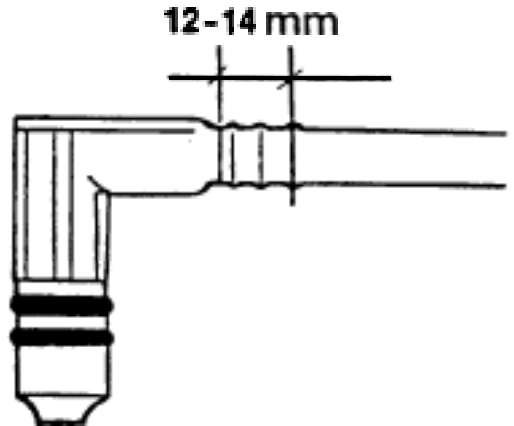

Figure 2. Cut off the old check valve, 12-14 mm from the end.
3. Remove the check valve by cutting the plastic fuel line 12-14 mm from the end of the line as shown in Figure 2.